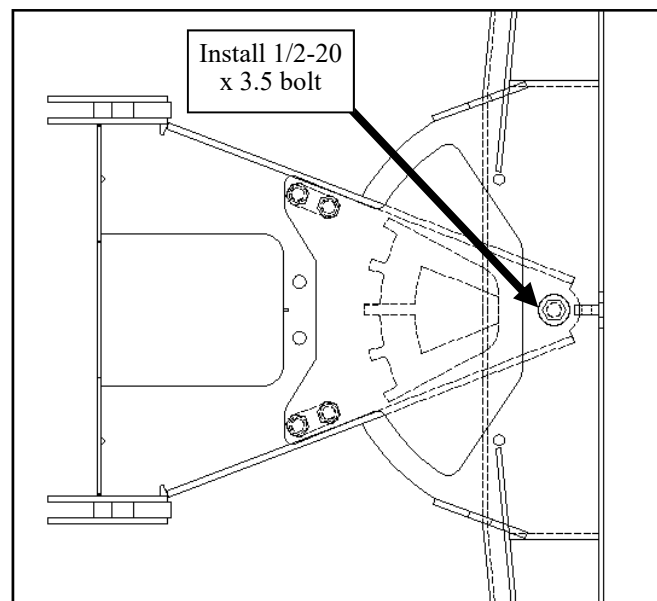

Fig. 3.2—A-Frame and Trip Frame
- 3.2 Per fig. 3.2, slide the A-Frame into the trip frame pocket, aligning the 1/2" bolt holes on both assemblies. Install the 1/2-20 x 3.5" hex head bolt with a 1/2" washer under the head of the bolt. Then thread on the lock nut. Tighten until all slack is removed from the bolt while the A-frame is allowed to rotate freely in the trip frame pocket.